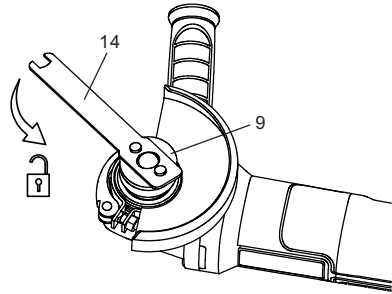

Fig. 11
2. Keep the spindle lock button (1) pressed and loosen the locking flange (9) anticlockwise with spanner (14) (Fig. 11).